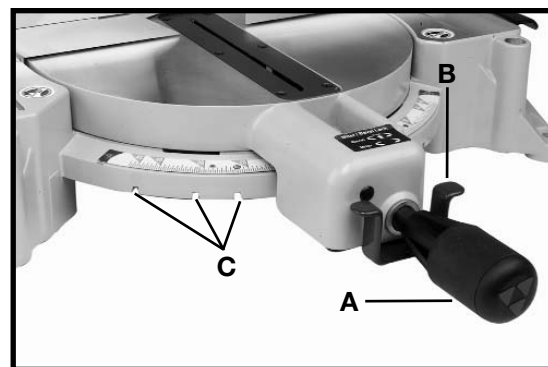

Fig. 13
Your miter saw will cut any angle from a straight 90 degree cut to 47 degrees right and left. Loosen lock handle (A) Fig. 13 one or two turns, depress index lever (B), and move the table to the desired angle. **TIGHTEN LOCK HANDLE (A).**
The miter saw is equipped with positive stops at the 0, 22.5, 31.62, and 45 degree right and left positions. Loosen lock handle (A) Fig. 13, and move the table until the bottom of the index lever (B) engages into one of the positive stops, three of which are shown at (C). **TIGHTEN LOCK HANDLE (A).** To disengage the positive stop, loosen lock handle and depress index lever (B).
IMPORTANT: ALWAYS TIGHTEN LOCK HANDLE (A) FIG. 13 BEFORE CUTTING.